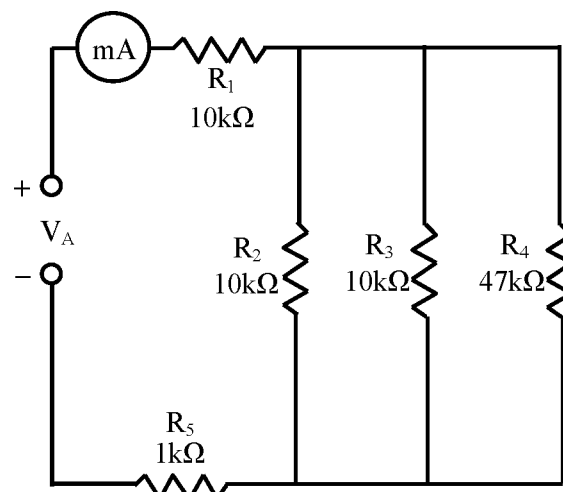

Figure 26-1
- Connect the circuit as shown in Figure 26-1.